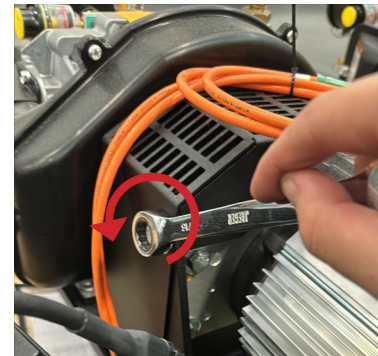

Figure 62
3. Using a ⅜" wrench, loosen the 3 bolts that attach the coupling guard to the motor mounting bracket, as shown in Figures 62 and 63. Do not move the aftercooler more than is shown in this photo as doing so will permanently deform the other aftercooler mounting bracket. Save the bolts, as you will need them to re-assemble the unit.
8. Re-attach the coupling guard. Apply Loctite 243 (or equivalent) to the 3 bolts that attach the coupling guard to the motor mounting bracket (refer to Figures 62 and 63) and torque to 8 ft-lbf (10.8 Nm). Do not overtighten as overtightening will deform the coupling guard.